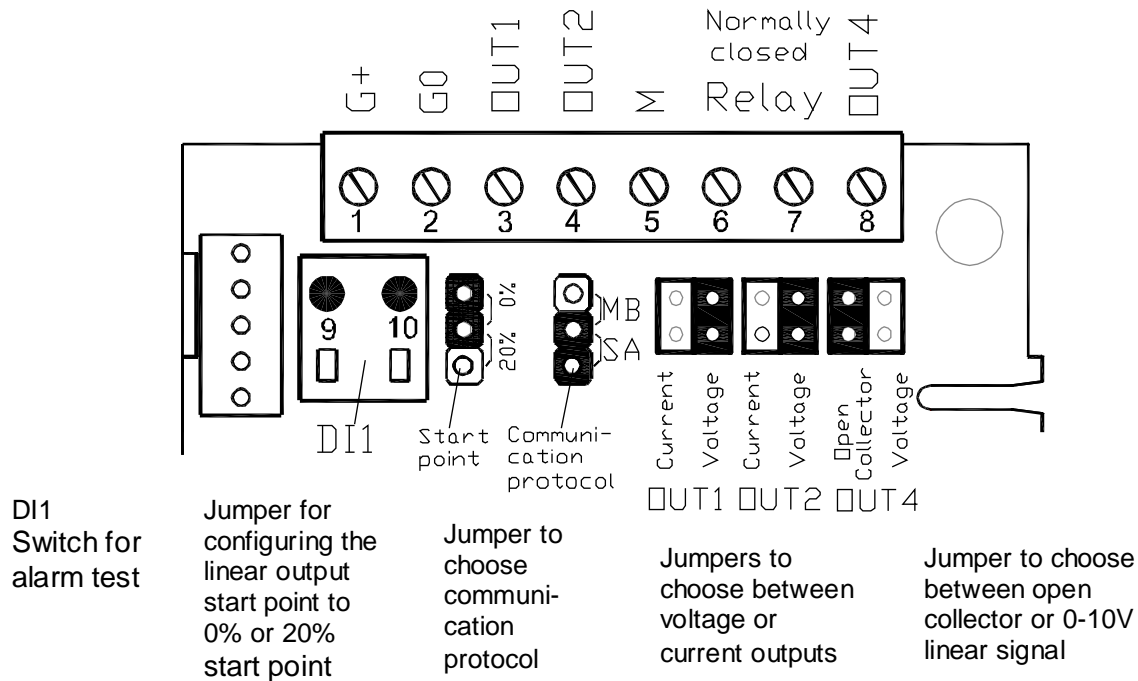

Fig. 3. Terminals and jumpers on *aSENSE™ m III*. The darker positions are default settings.
1. **Dismount the wall plate.** The sensor is delivered with the wall plate mounted. The wall plate has to be removed before the sensor is mounted onto the wall. Unscrew the screw on the side of the box. See figure 3.